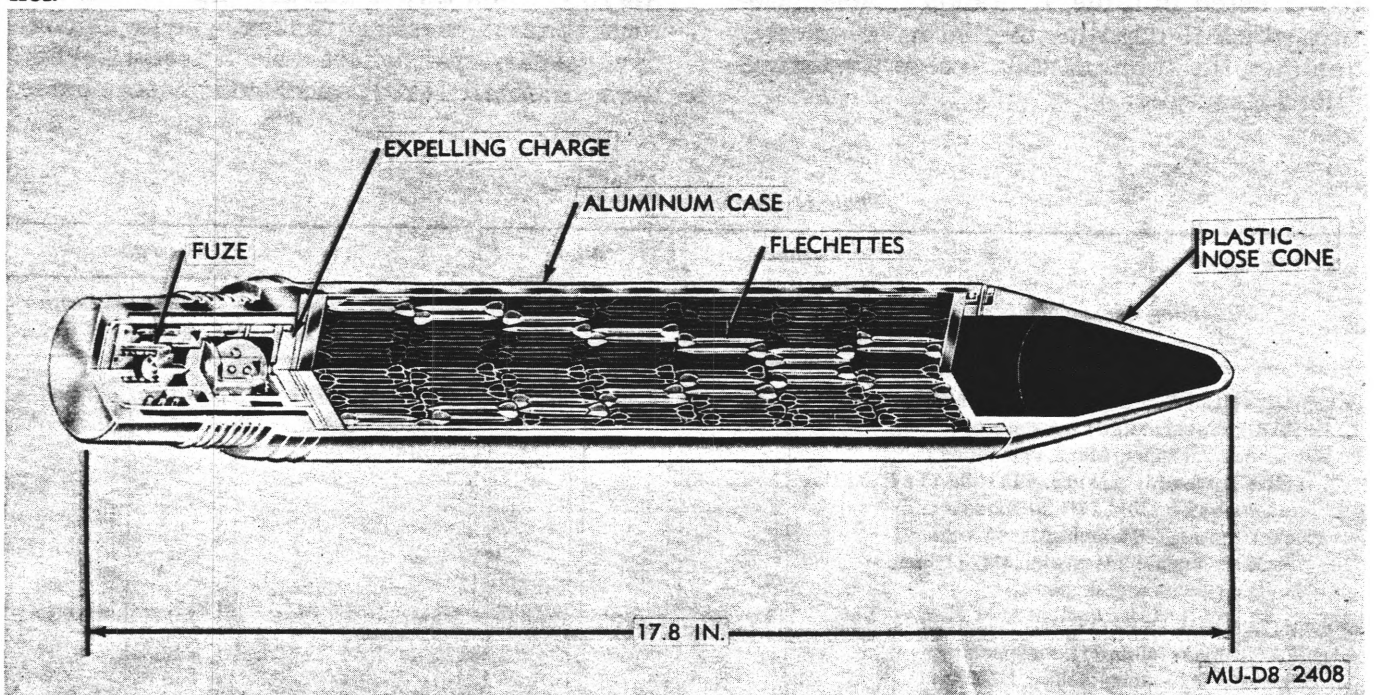

Figure 5. Antipersonnel (APERS) warhead WDU 4A/A.
e. Antipersonnel (APERS) (fig. 5), which contains a payload of flechettes, a fuze and an expelling charge for use against personnel.